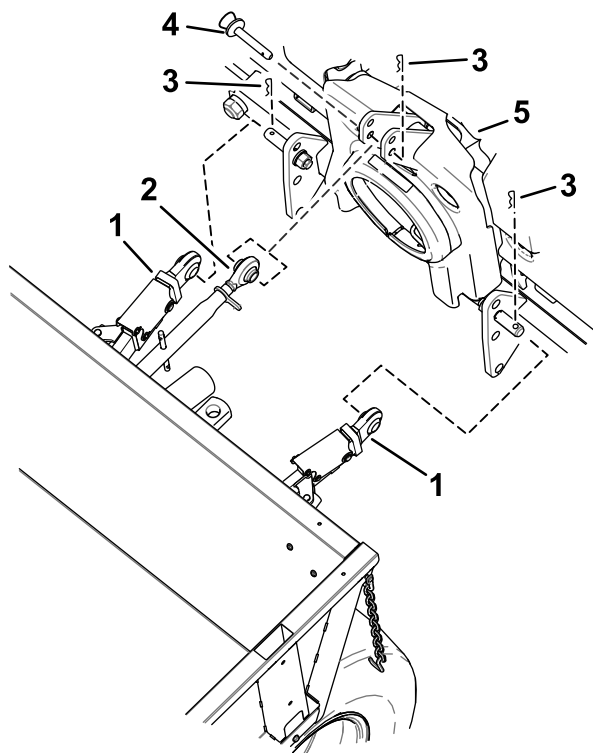

Figure 29
1. Slowly back the machine up and align the draft links to the lower connections of the attachment (Figure 29).
2. Secure the draft links to the attachment (Figure 29).
3. Position the top link to the top connection of the attachment (Figure 29).
4. Secure the top link to the attachment (Figure 29).
4. Remove the top link from the attachment (Figure 29).
5. Remove the draft links from the attachment (Figure 29).